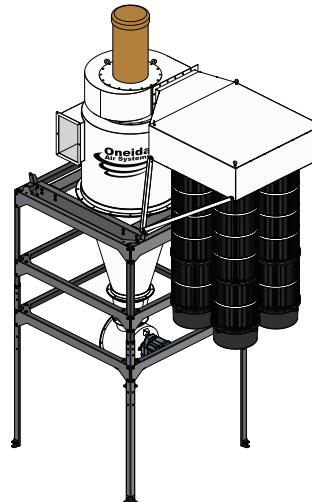

FIG. 1a
- 1** Determine the location and orientation for your installation, taking careful note of which direction the dust collector's inlet and hanging filter plenum [FIG. 1a] or inverted filter plenum [FIG. 1b] will be facing.